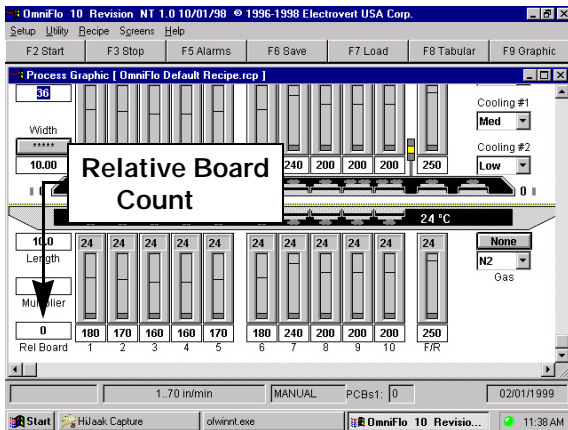

Figure 41: Process Graphics Screen
Ensure that the incoming photocell is operating correctly. With machine software displaying the Process Graphics Screen, block the end of the photocell closest to the machine with a hand or a solid object. The REL BOARD parameter on the Process Graphic Screen should increment by one (1). Refer to Figure 41.